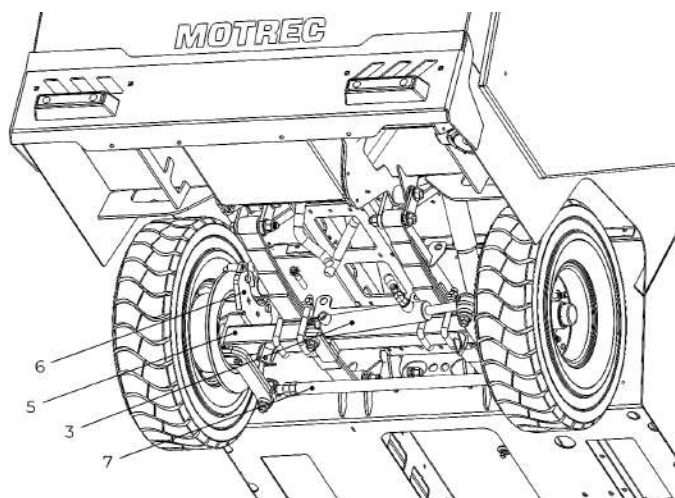

Figure 32. General Steering Inspection.
- Steering cylinder (3). (See Figure 32)
- Axle beam (5). (See Figure 32)
- Right and left spindles (6). (See Figure 32)
- Tie rod (7). (See Figure 32)